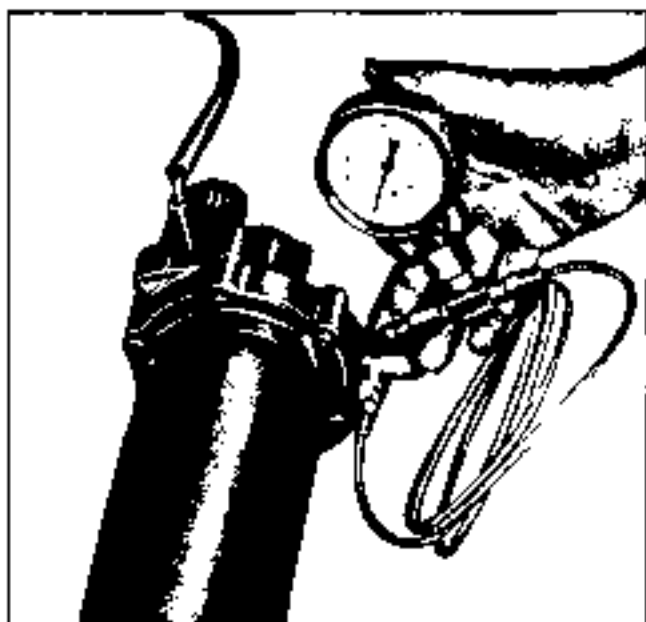

Fig. 4-25 Test Gage Installed on Regulator Valve
1. With all engine operated accessories turned off and ignition turned off, deflate system through service valve. Remove high pressure line at regulator and connect test gage (Fig. 4-25).
1. Deflate system through service valve and disconnect line at pressure regulator valve. Install test gage on regulator valve high pressure fitting (Fig. 4-25).